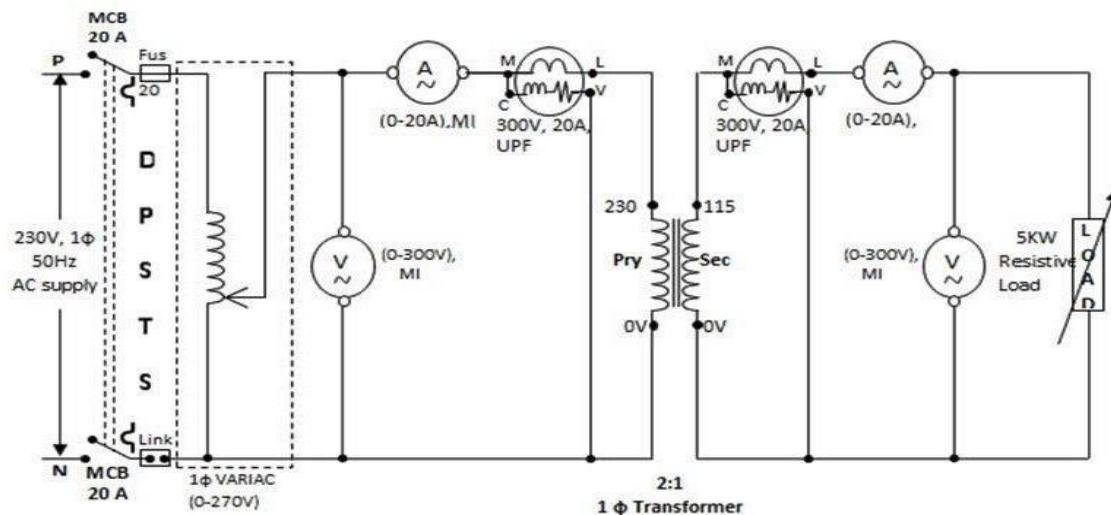

Fig.1. 1-Phase Transformer with resistive load
1. Connections are made as per the circuit diagram fig 1.